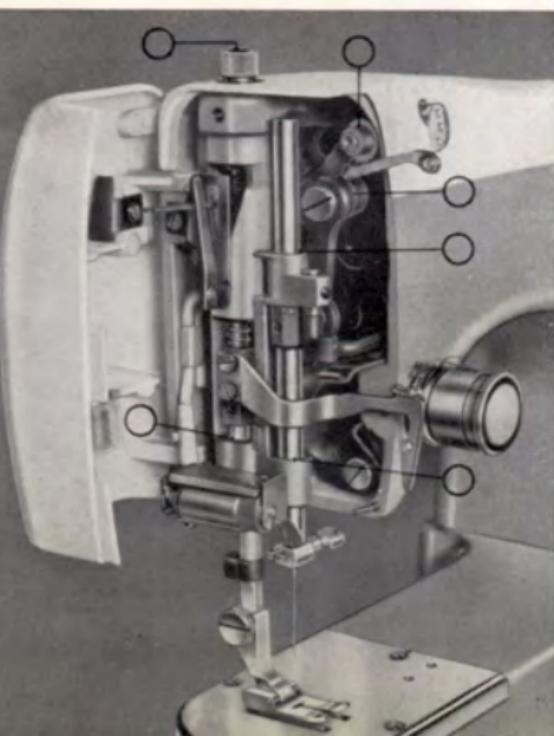

Fig. 4
- b) Open the face plate by rotating it on its hinges and apply a few drops of oil at the points indicated in Fig. 4.